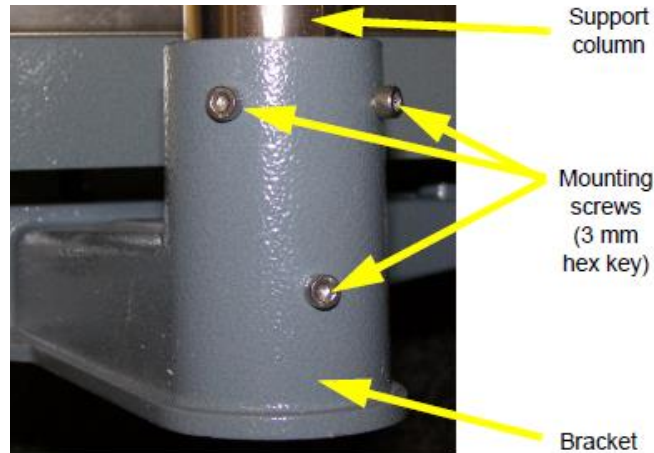

Fig. 3 Insert column into bracket and secure with three screws
1. Attach the support column to the bracket at the back of the scale base using the three mounting screws. Use a 3mm hex (Allen) key to tighten the screws. See Figure 3.